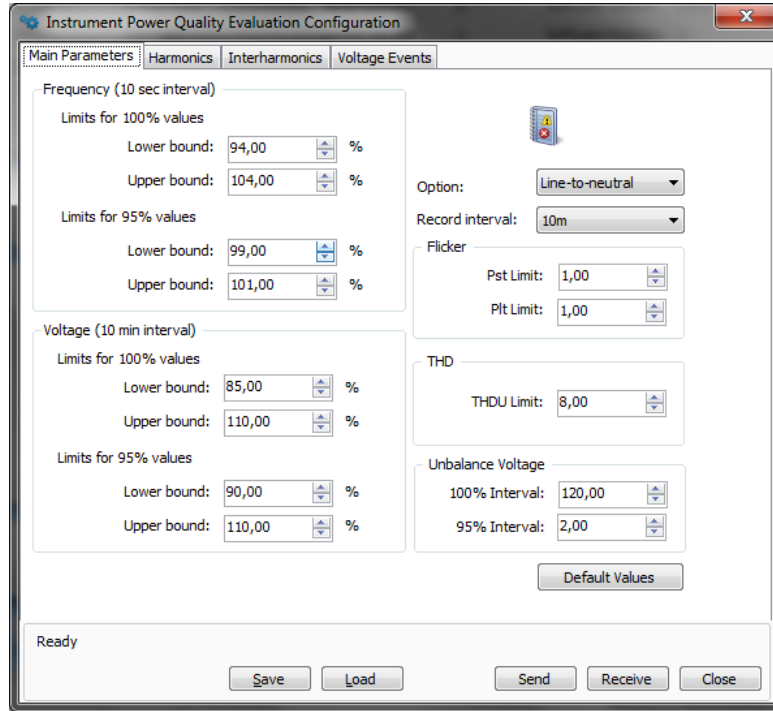

Figure 9: ENVIS.Daq - PQ Setting window
**PQ Settings (see fig. 9)** In this window you can set the parameters for recording of the voltage events: